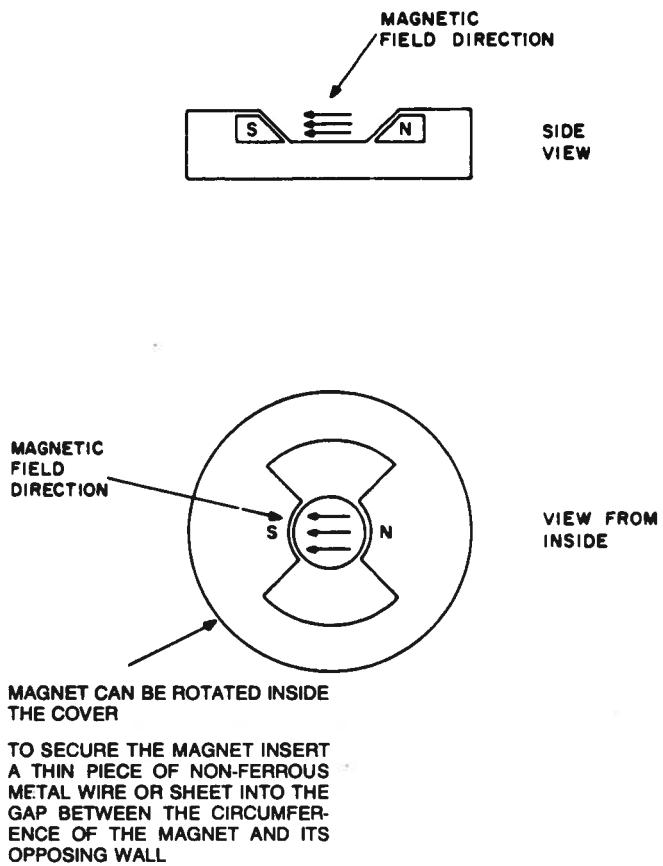

Figure 3.5 Sputtering Sensor Magnet Field Configuration
- The sensor contains a permanent magnet. If the sensor is to be installed in a sputtering system which employs external magnetic fields, make sure the magnetic field direction of the sensor magnet is not opposing the external magnetic field. See Figure 3.5. The cancellation of the magnetic fields near the sensing crystal may cause undesirable heating of the crystal. Use a small magnet to determine the field direction and rotate the magnet in the sensor to a desirable position. The sensor magnet can be held in place by inserting a small piece of thin non-ferromagnetic wire or sheet into the gap between the circumference of the magnet and the opposing wall. The sensor's magnetic field is localized, and will not affect the external magnetic field to any extent.